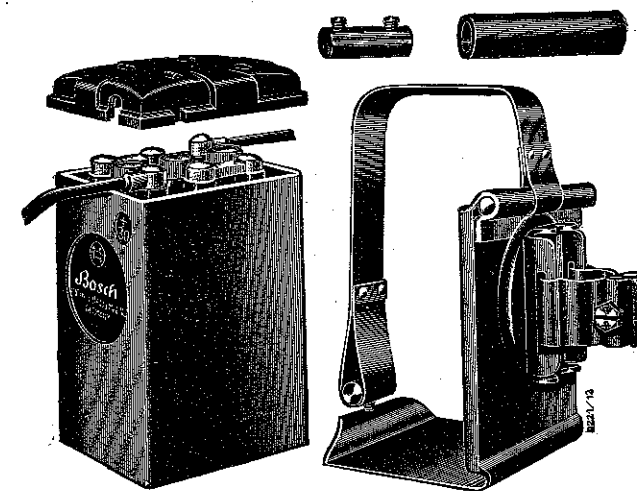

Fig. 9. Battery BGD 312 with battery carrier and cable connector
1. Battery BGD 312 (Fig. 9).
The positive cable (30) is connected by a socket (Fig. 9) with the cable running from terminal 30 on the dynamo-ignition-unit. This socket is protected against earthing by a rubber sleeve. When drawing over the rubber sleeve, care must be taken that the socket is completely covered by it.